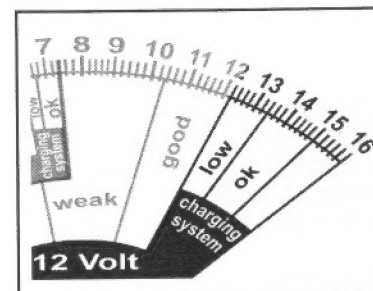

Figure 4. 12 Volt Charging System Test Results
3. Start vehicle and set idle at 1200 - 1500 RPM and observe meter (See Figures 4 or 5).